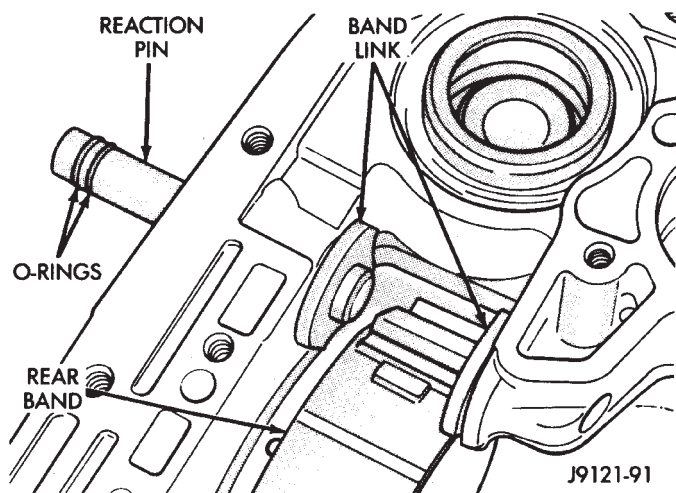

Fig. 137 Installing Rear Band Reaction Pin—46RH
(11) Insert band reaction pin part way case and band link (Fig. 137).